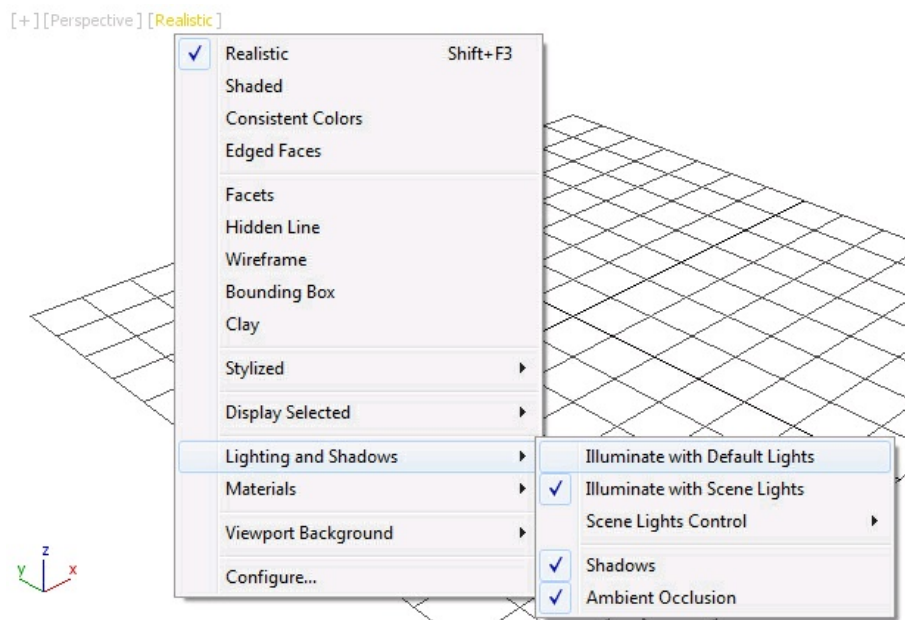

Figure 13-5 The cascading menu displayed in the viewport
1. When you click on the *Shading Viewport* label, a flyout will be displayed. First, choose the **Shaded** option and then choose the **Lighting and Shadows** option from the flyout; a cascading menu will be displayed, as shown in Figure 13-5. Note that in this menu the **Shadows** option is chosen by default.